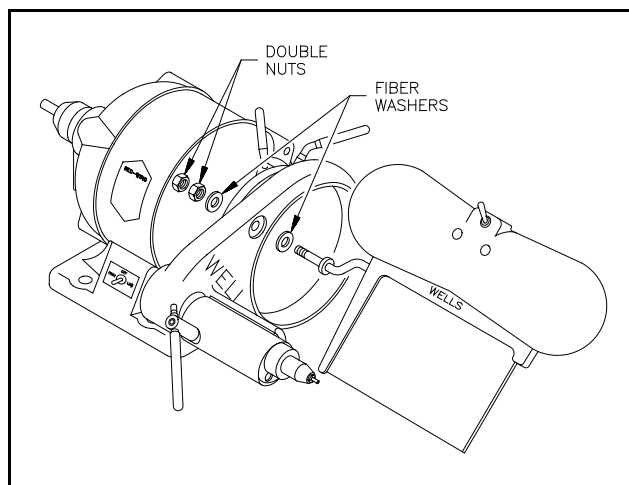

Figure 9. Install the Light Shield
- 5.11 Loosen the height adjustment handle and position the Spindle as illustrated in Figure 9.
- 6.2 Put the arm through the hole in the bracket. See Figure 9. Install the fiber washer and the two nuts on the end of the arm.